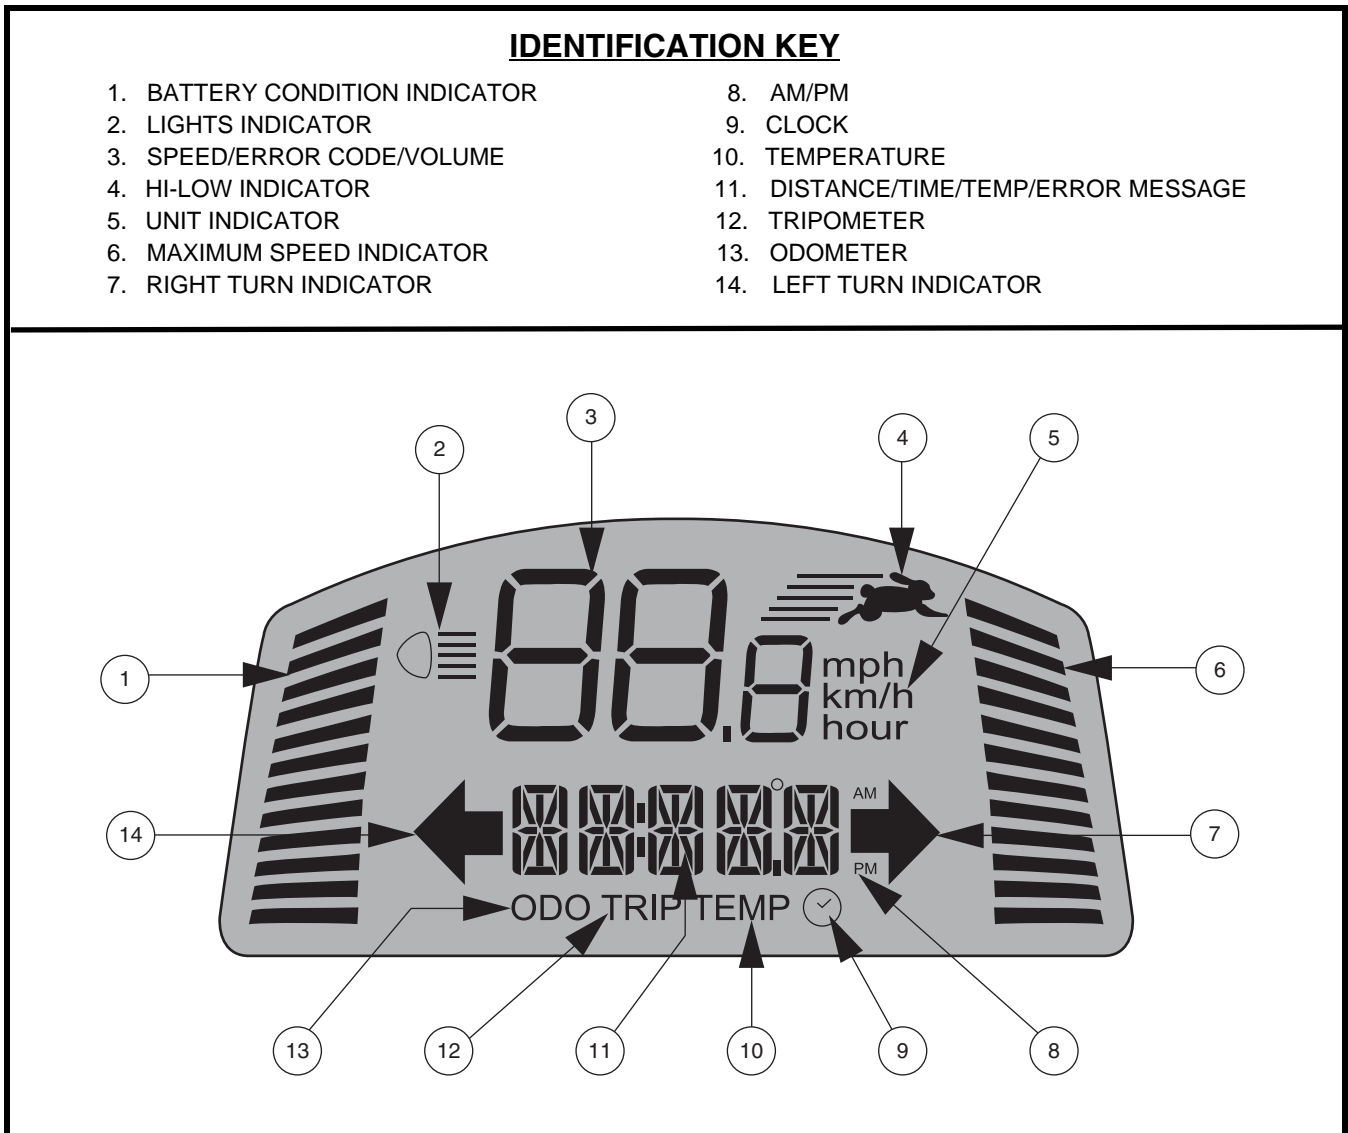

Figure 4. LCD Screen
- Press the **High-Low** button once to set the speed adjustment to high. The High-Low indicator will display on the LCD screen. **See figure 4.** Using this setting in conjunction with the speed adjustment buttons will allow the scooter to achieve speeds up to the maximum preprogrammed speed for the scooter.
These adjustment buttons enable you to pre-select and limit your scooter's speed. This is indicated by the maximum speed indicator on the LCD screen. **See figure 4.**
NOTE: The more bars shown on the maximum speed indicator, the faster your pre-selected maximum speed will be. See figure 4.
The LCD control panel offers easily intuited feedback information via the LCD screen. See figure 4. The LCD screen is also used during the set-up (activation) of the various control panel settings. See chart 1.